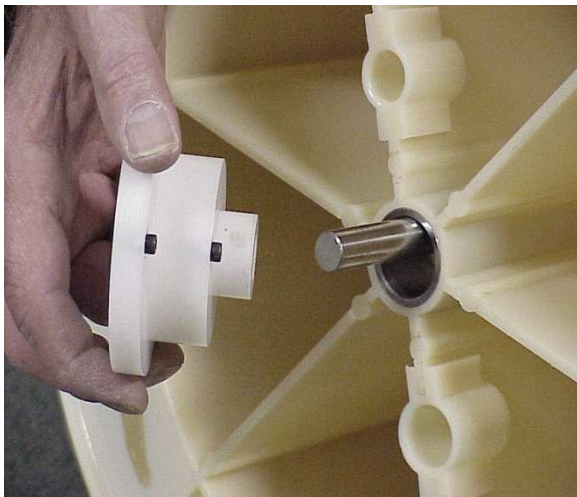

Figure 5
6.11 Install two Reel Payoff Cams into fiber reel bushings and insert Steel Shaft through center of Payoff Cams. **See Fig. 5.**